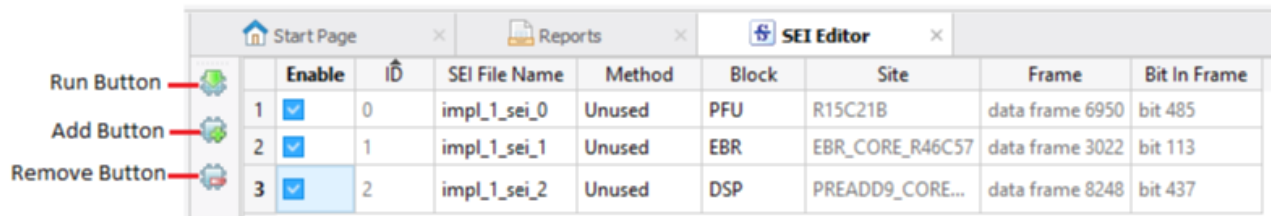

Figure 10.1. SEI Editor
2. Run the SEI Editor (as shown in Figure 10.1) under Tools. This allows you to create one frame special bitstream that has one bit different from your original bitstream